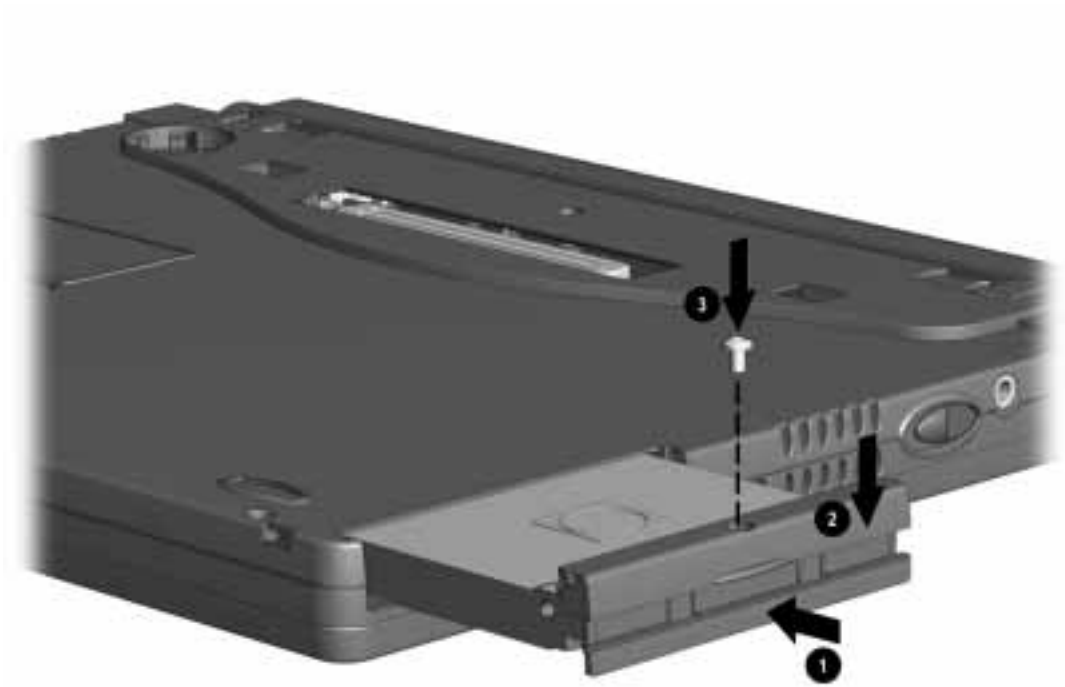

Figure 5-8. Inserting a Hard Drive
4. Slide the hard drive into the bay until the connector is seated ❶ (Figure 5-8).
5. Push the front bezel down ❷.
6. Insert the hard drive screw ❸.